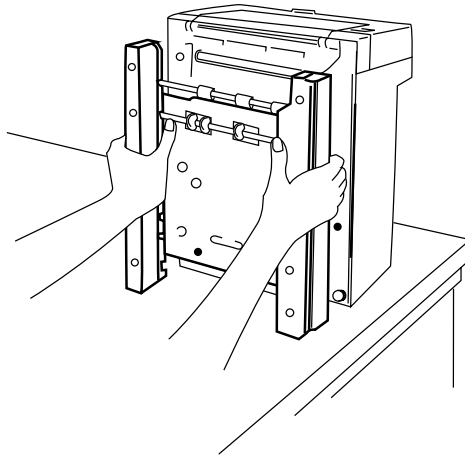

Fig. 4.3 *Positioning the Feeder Tray*
3. Turn the printer on end and rest it on a stable, horizontal surface. Hold the feeder tray on both sides and position it against the printer's bottom as shown in figure 4.3.